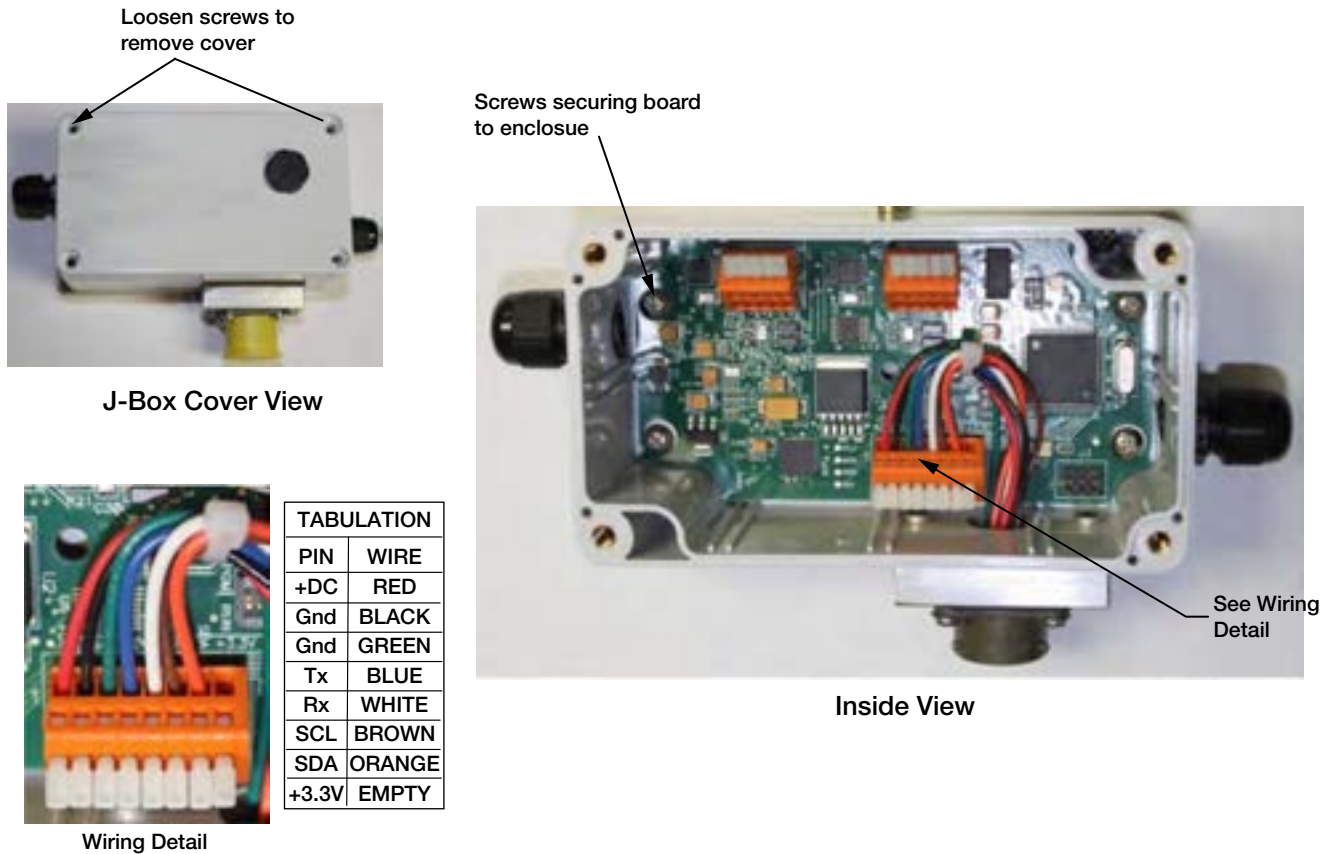

Figure 4-19. Board Removal and Wiring – One Board Style
5. Reconnect the wires to the board. See Figure 4-19.
7. Reconnect the wires to the board. See Figure 4-19 and Table 4-11.